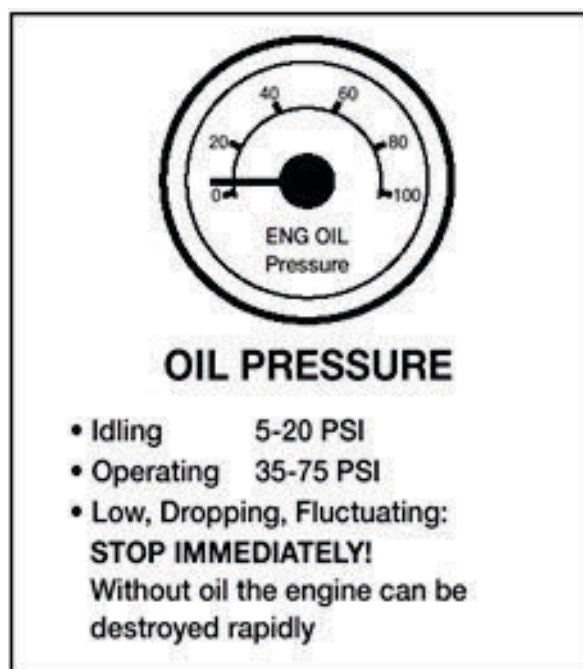

Figure 2.5
- ✓ Oil pressure. Should come up to normal within seconds after engine is started. See Figure 2.5.